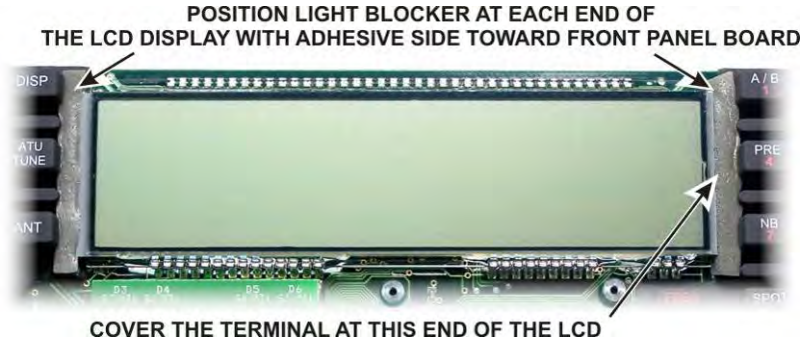

Figure 39. Installing LCD Light Blocker.
□ Install the two soft foam light blockers at the ends of the LCD display as shown in Figure 39. Remove the paper strip covering the adhesive on each blocker and stick that side against the board (or the lip at the base of the switch buttons) so it stands up between the switches and the LCD. Push them down so the adhesive side is against the board or base of the switches and that they cover ends of the LCD, including the terminals at the right hand end of the LCD as shown.